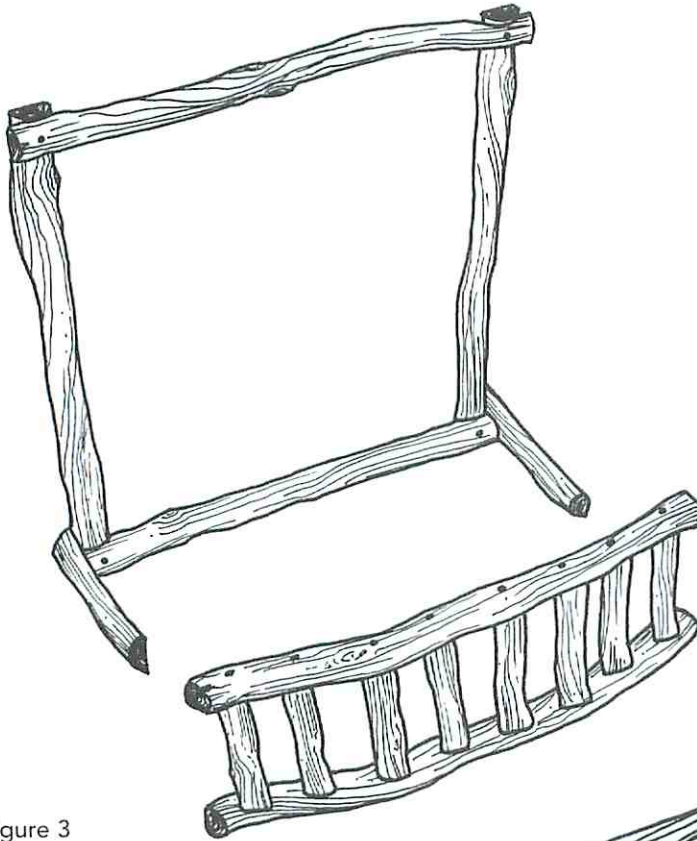

Figure 3
To join the front rail to the frame, take the two side rail pieces (E) and make two mirror cuts, so you have a total of four 9"-long pieces. Predrill holes into the constructed wall support and the front rail and screw the side rail into them. See Fig. 3. To install the side rungs (F), leave them round and screw in three pieces per side to the flat surface of the side rails.